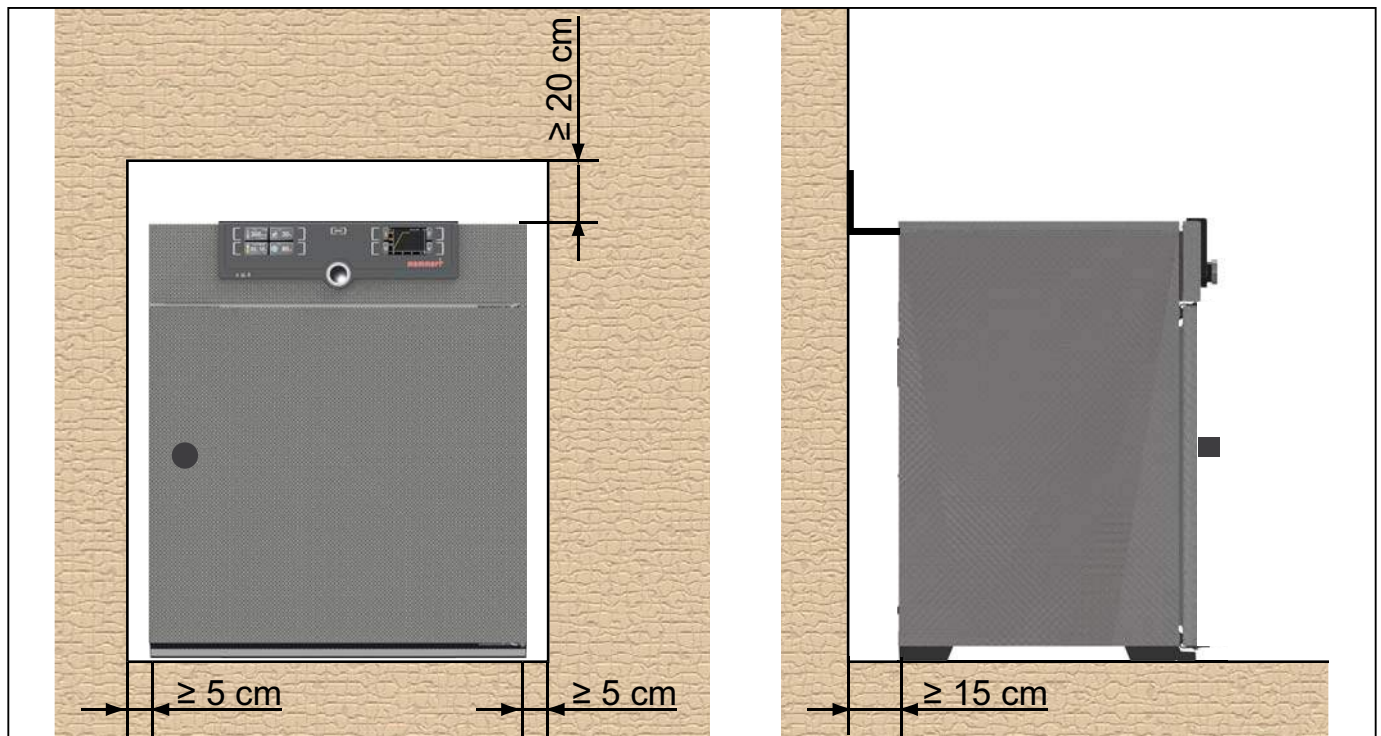

Fig. 13 Minimum clearance from walls and ceiling
The distance between the wall and the rear of the appliance must be at least 15 cm. The clearance from the ceiling must not be less than 20 cm and the side clearance from walls or nearby appliances must not be less than 5 cm (Fig. 13). Sufficient air circulation in the vicinity of the appliance must be guaranteed at all times.
2. Bend the tilt protection upwards by 90° in the desired distance to the wall (observe the minimum distance to the wall, see Fig. 13).